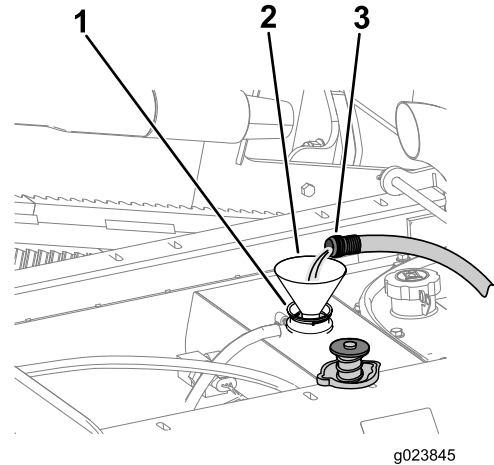

Figure 113
- B. Fill the radiator with clean water (Figure 113).